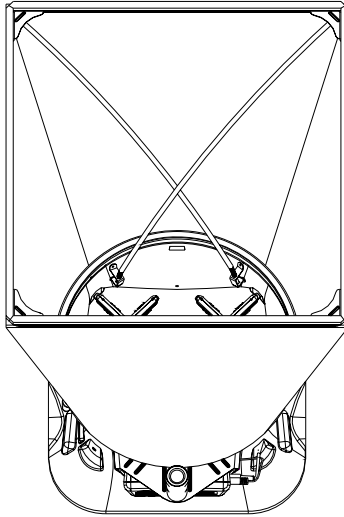

Figure 14: Installing a Support Pole
3. Grasp the support pole. Bend the pole slightly to insert the top end of the pole into the support pole cup located in the opposite corner of the fabric frame. The poles are connected to the frame corners in a crisscross fashion as shown in Figure 14. The support poles always cross as pairs at the front and back of the fabric hood.